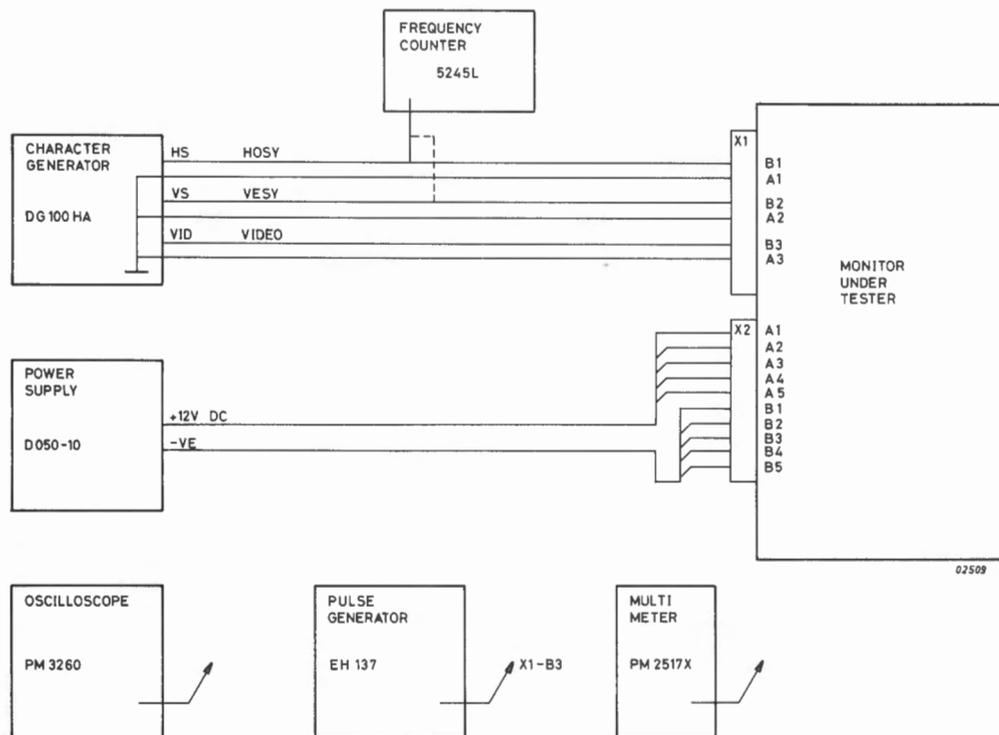

Figure 8.9 TEST CONFIGURATION
- a. Connect the monitor-under-test and test equipment as per the test configuration coniguration shown in figure 8.9.